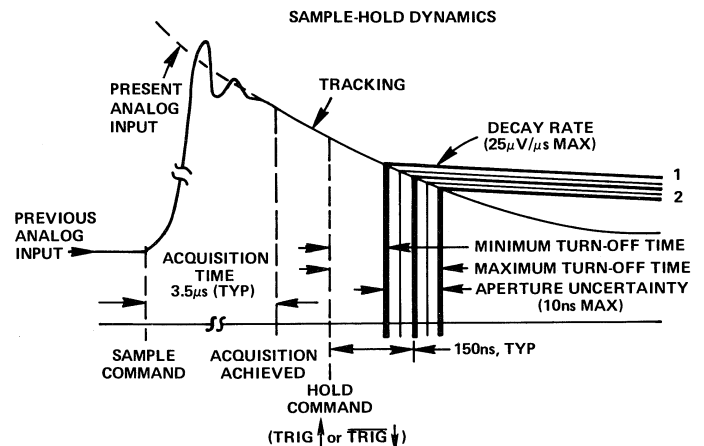
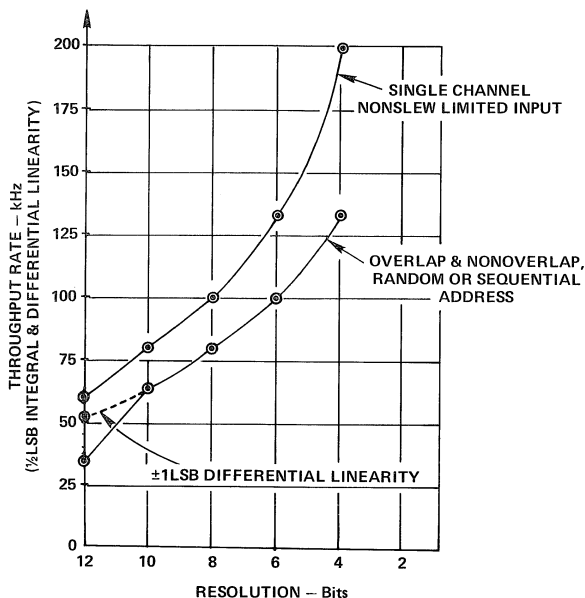

Figure 4. Sample-Hold Parameters Defined and Specified
Figure 5. DAS1128 Throughput Rates
The overlap mode is defined as the ability of MUX to accept a new channel address thereby selecting the next channel to be sampled while the previously acquired sample is being held by the S/H for conversion. The dynamic characteristics of the S/H circuit are shown in Figure 4. Maximum throughput rates are obtainable when a single channel is held at a single address and the channel is sampled repeatedly. In a dynamic condition, data-throughput rates obtainable are shown in Figure 5.
It is possible to short cycle the DAC1128, i.e., stop the conversion after less than 12 bits. This can be done by connecting an external jumper between short cycle terminal and one of the output terminals. With shorter cycles the attainable throughput rate increases, see Figure 5. In short cycle operation the EOC will decrease proportionately to the number of bits selected. Note the short cycle terminal *must* be grounded for full 12-bit operation.
3. Select A-D conversion/channel select sequence (see Figure 5).